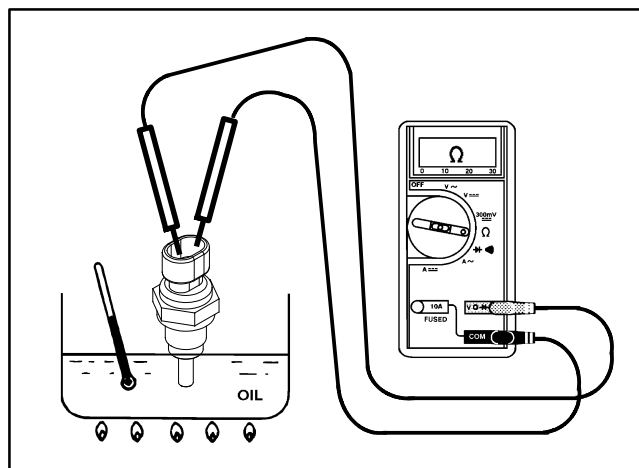

Figure 86
3. Put sensing end of sender in a container of oil with a thermometer and slowly heat the oil (Fig. 86).